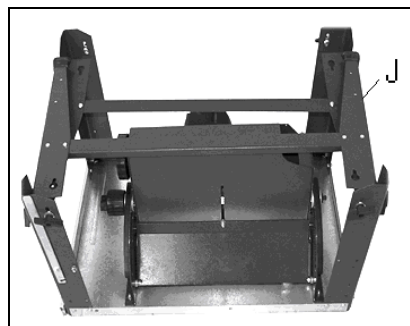

Fig 2
- unfold the four legs (J, Fig 2) and tighten the nuts securely.